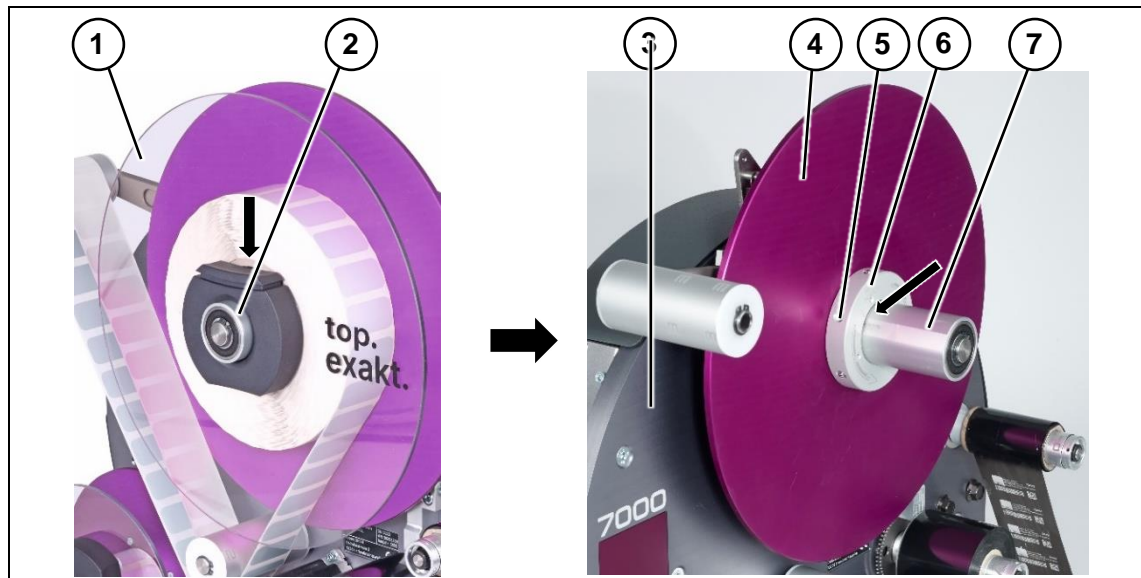
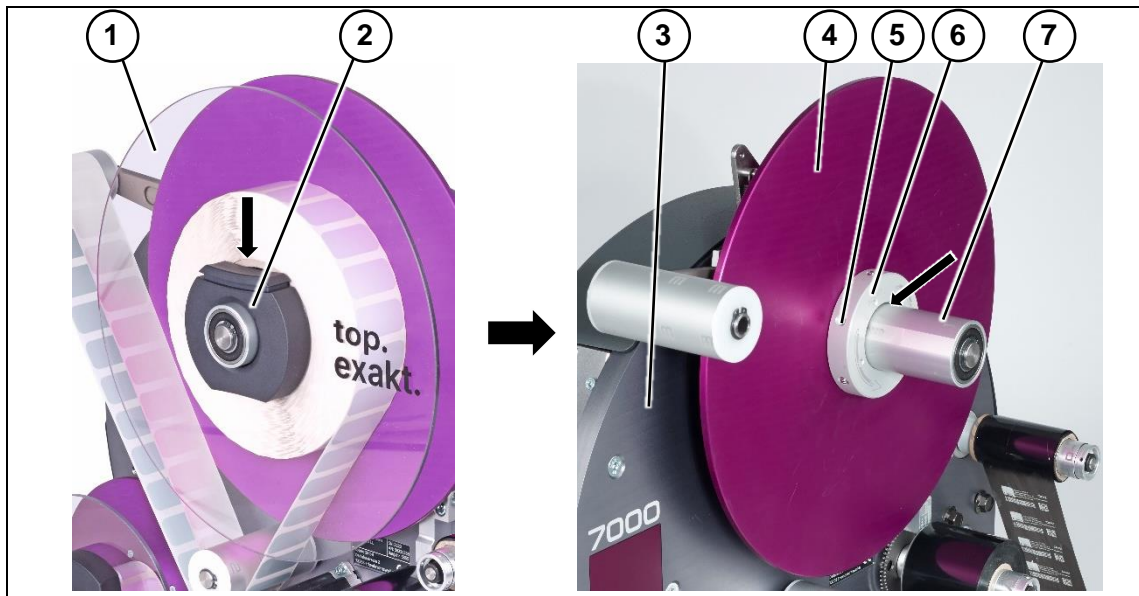

Figure 27 Label unwinding
Figure 30 Label unwinding
- 1 Remove the flanged wheel (Figure 27, pos. 1) of the label unwinding by pressing and holding the clamping ring (Figure 27, pos. 2).
- 2 Measure the distance between the base plate (Figure 27, pos. 3) and the stop disc (Figure 27, pos. 4). Record the measured value. Mark the position of the adjusting ring (Figure 27, pos. 6) on the unwinding roller (Figure 27, pos. 7) (see arrow).
- 3 Loosen the screws (Figure 27, pos. 5) on the adjusting ring (Figure 27, pos. 6).
- 4 Pull the stop disc (Figure 27, pos. 4) and the adjusting ring (Figure 27, pos. 6) off the unwinding roller (Figure 27, pos. 7).
- 7 Pull the brake belt around the unwinding roller (Figure 27, pos. 7).
- 12 Place the stop disc (Figure 27, pos. 4) on the unwinding roller (Figure 27, pos. 7). Observe the correct position as described under item 2.
- 13 Place the adjusting ring (Figure 27, pos. 6) on the unwinding roller (Figure 27, pos. 7) and fasten it with the screws (Figure 27, pos. 5).
- 14 Place the flanged wheel (Figure 27, pos. 1) on the unwinding roller (Figure 27, pos. 7) by pressing and holding the clamping ring (Figure 27, pos. 2).
- 1 Remove the flanged wheel (Figure 30, pos. 1) of the label unwinding by pressing and holding the clamping ring (Figure 30, pos. 2).
- 2 Measure the distance between the base plate (Figure 27, pos. 3) and the stop disc (Figure 30, pos. 4). Record the measured value. Mark the position of the adjusting ring (Figure 30, pos. 6) on the unwinding roller (Figure 30, pos. 7) (see arrow).
- 3 Loosen the screws (Figure 30, pos. 6) on the adjusting ring (Figure 30, pos. 7).
- 4 Pull the stop disc (Figure 30, pos. 4) and the adjusting ring (Figure 30, pos. 6) off the unwinding roller (Figure 30, pos. 7).